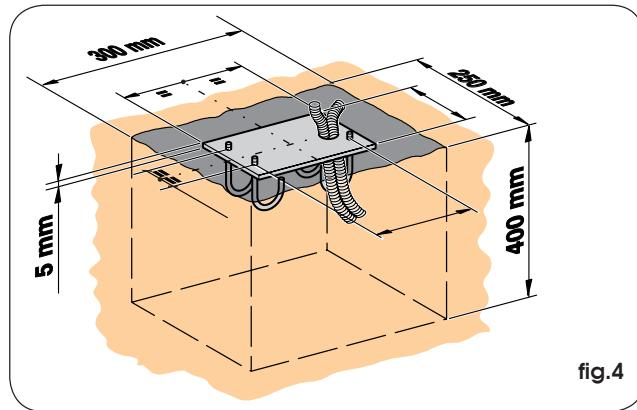

fig.4
- 1) Make a foundation plate as shown in fig.4 (referred to clayey soil)
- 2) Wall the foundation plate as shown in fig.4, supplying one or more sheaths for routing electrical cables. Using a spirit level, check if the plate is perfectly level. Wait for the cement to set.